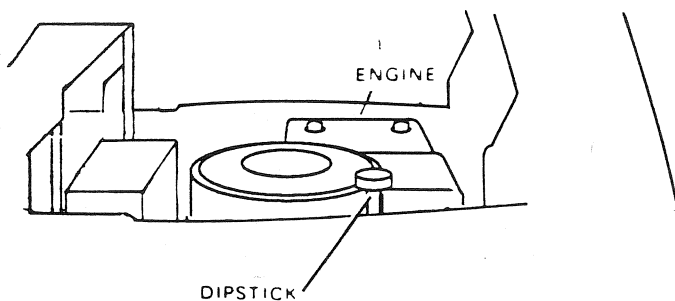

FIGURE 8
2. This engine has been shipped filled with summer weight oil. For cold weather operation, see chart below. Check engine oil level with Tractor on level ground. Wipe Dipstick (Fig. 8) clean, screw it in tight for a few seconds, remove and read oil level. If necessary, add oil until "FULL" mark is reached.